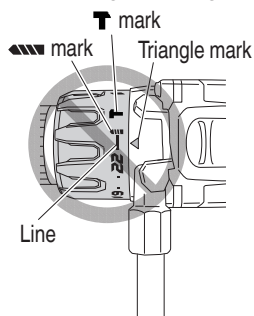

Fig. 17
- Do not use with the clutch dial number at "22" and the line at the middle of the drill mark "▲▲▲". Doing so may cause damage. (See Fig. 17)